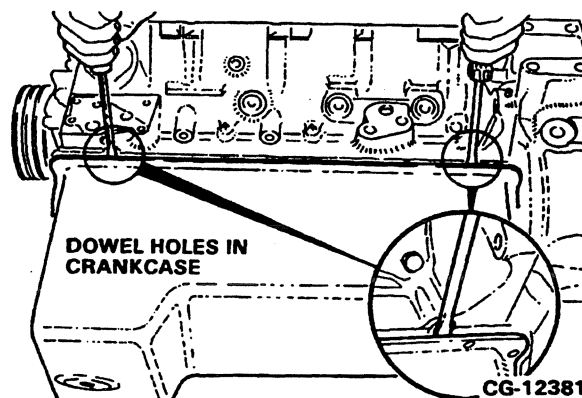

Figure 8.6. Oil Pan Removal
3. Insert two pry bars through the crankcase dowel-holes on the left side of the crankcase pan rail. Pry the oil pan off. This prevents pan rail damage and distortion. Refer to Figure 8.6.